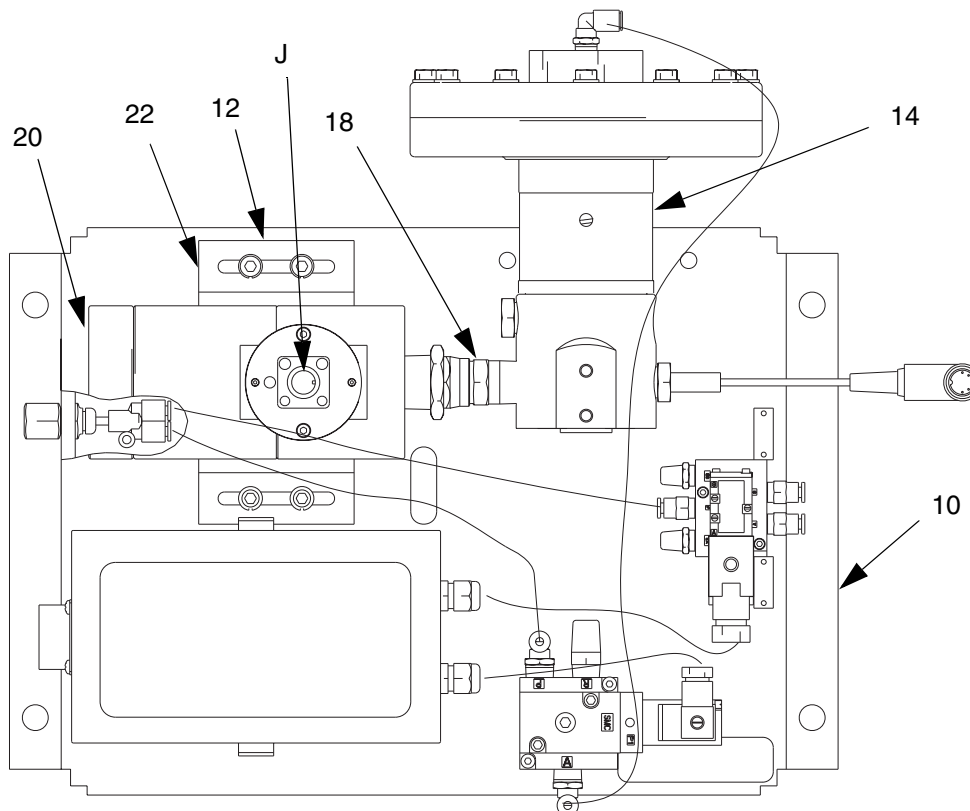

FIG. 25
- flow meter (20) (FIG. 25)
- regulator (14) (FIG. 25)
2. Disconnect the flow meter cable (J) from the flow meter sensor. See FIG. 25.
4. Disconnect the swivel fitting (18) from the regulator.
5. Loosen the four screws (12), and remove the bracket (22) and flow meter.
6. The flow meter (20) weighs approximately 15 lbs. (6.75 kg). Carefully lift it off the mounting plate (10).
1. Rest the flow meter and bracket (20) on the fluid plate while threading the swivel fitting (18) onto the regulator material inlet. See FIG. 25.
2. Tighten the swivel fitting (18) to the regulator material inlet.
3. Tighten the four screws (12) to hold the bracket and flow meter in place.
4. Check that the flow meter (20) and regulator (14) are still aligned.
6. Connect the flow meter cable (J).